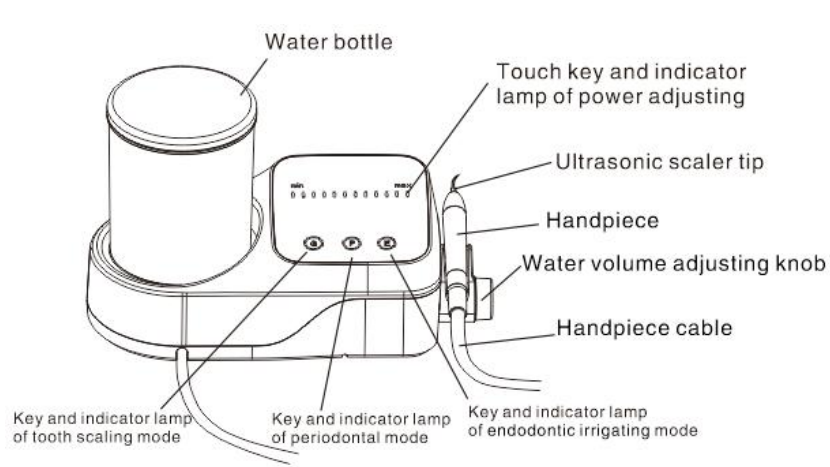

Figure 1 Front Schematic Diagram
- (1) After unboxing, check all accessories of the product according to the Packing List. Take out the device from the box, then place it on a stable and flat plane.
- (2) Turn the water volume adjusting knob to its maximum as shown in the Figure 1 (see section 3.5.1 [Note 1]).